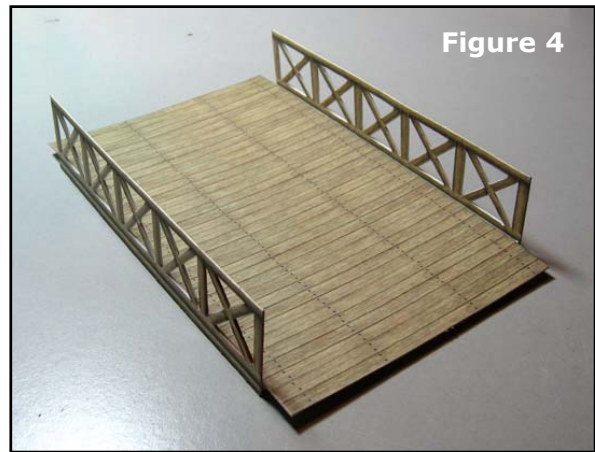

Figure 4
1. Cut the railings out and fold along the dotted line. Apply glue to the narrower of the two sides and press together. Allow time for the glue to dry (Figure 4).